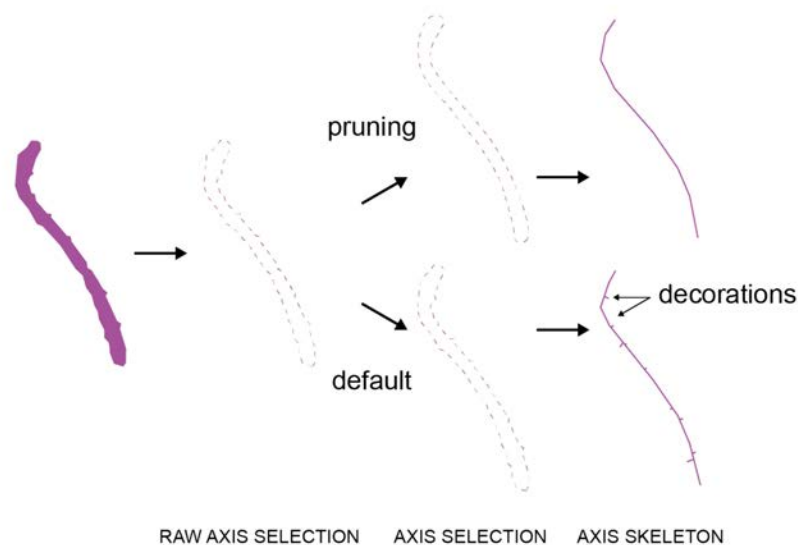

Figure 6.12. The pruning process.
**OPT. STEP B4.** If using the "measure axis length option at STEP4 and get unwanted decorations in axis skeleton, configure the pruning method and options (see figure 6.12). Pruning is necessary to modify the outlines of the raw axes and eliminate unwanted axis decorations, ensuring accurate axis length measurement. This step is particularly important when working with superresolution images. The process involves using the raw axis ROI to generate an 8-bit mask using the fill/clear commands (which can be manually replicated by using the ROI, followed by Edit > Fill and Edit > Clear Outside menus). The binary mask is then processed using the following options: